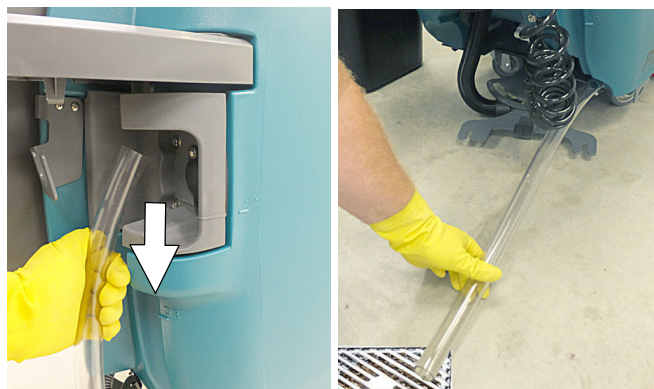

FIG. 80
2. To drain remaining water from solution tank, pull the solution tank level hose from the accessory rail (Figure 80). Firmly reconnect the hose to the accessory rail after draining tank.